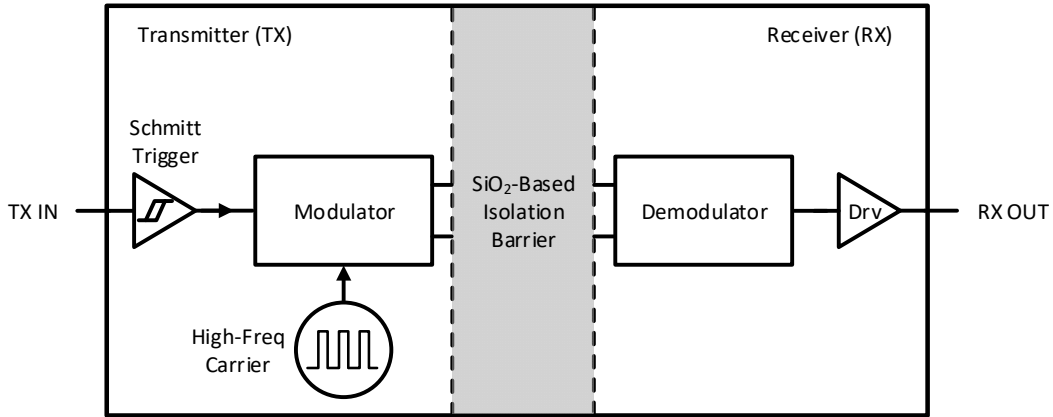

Figure 9-2 Block Diagram of an Isolation Channel
The CA-IS1200 devices utilize a simple on-off keying (OOK) modulation scheme to transmit the digital bitstream across the SiO₂-based isolation barrier which supports up to 3750-V_{RMS} (CA-IS1200U) or 5000-V_{RMS} (CA-IS1200G) galvanic isolation between high- and low-voltage domain. The block diagram of an isolation channel is shown in Figure 9-2. As shown in Figure 9-3, the transmitter (TX) modulates the digital bitstream with a high-frequency carrier when the signal is HIGH while sends no signal